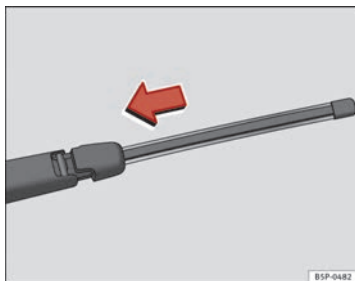

Fig. 140 Fitting the rear window wiper blade
- Place the blade as shown in the ⇒ Fig. 140 and slide the adapter along until it engages.